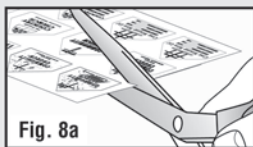

Fig. 8a
- Choose desired Decal. Cut out, leaving a slight edge (Fig. 8a).